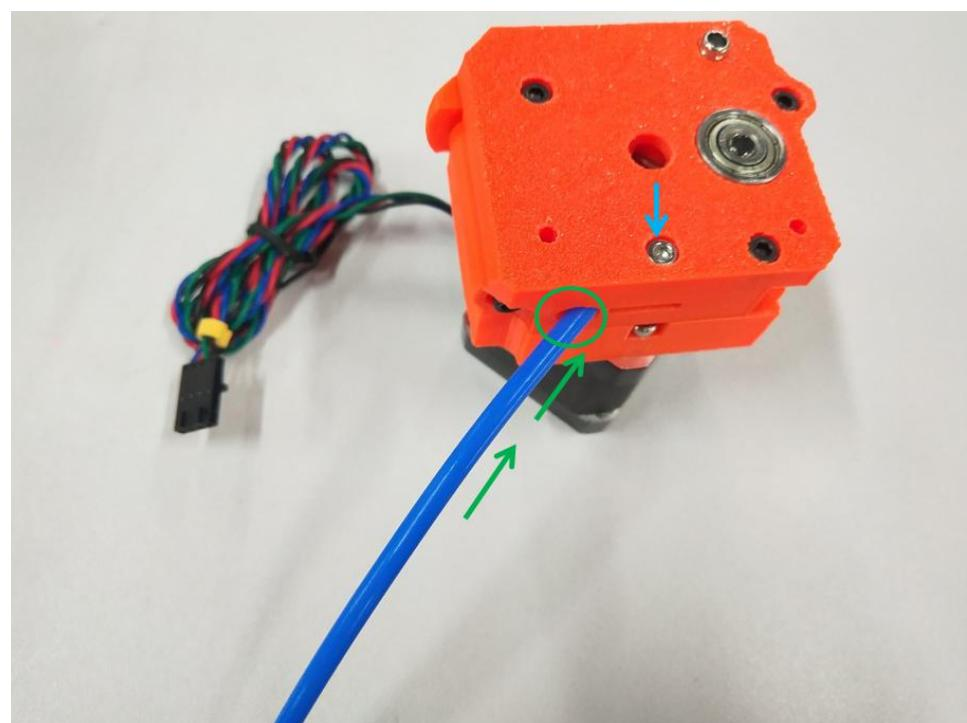

Figure 2.4.2
**Step 2-4-2:** as shown in Figure 2.4.2